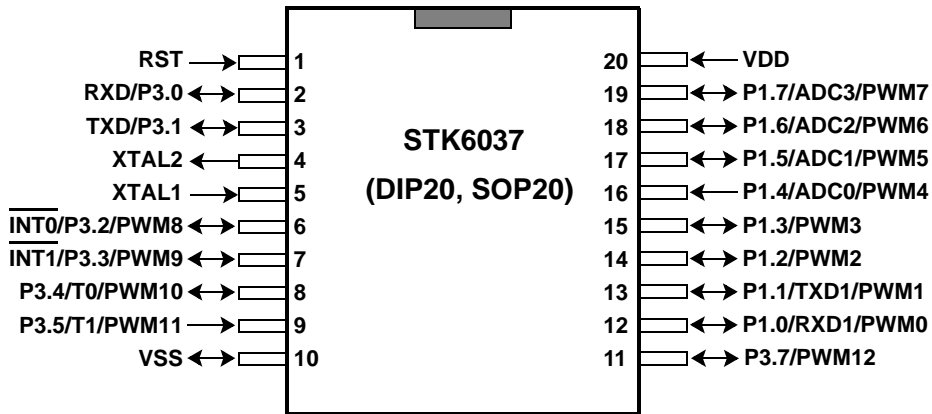

Fig.2 Pin configuration of DIP20 and SOP20 package.
- Fig. 2** Pin configuration of DIP20 and SOP20 package.....Page 12